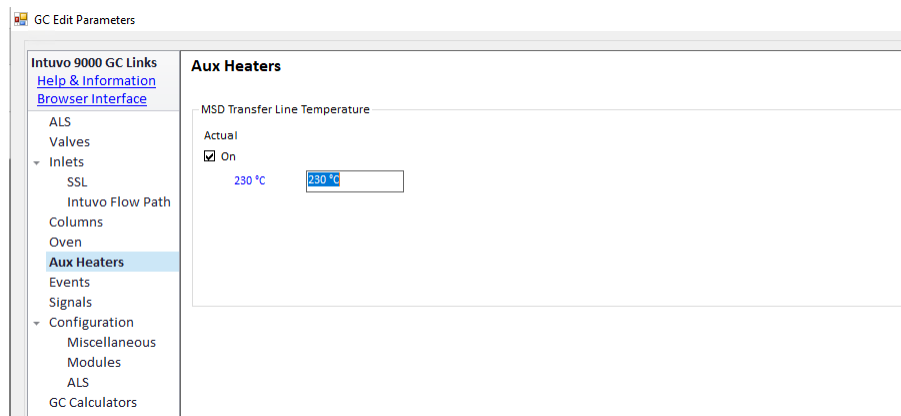

Figure 29. Setting the interface temperature
- 2 In the left column select **Aux Heaters** to display the **MS Transfer Line Temperature** settings. (See Figure 29.)